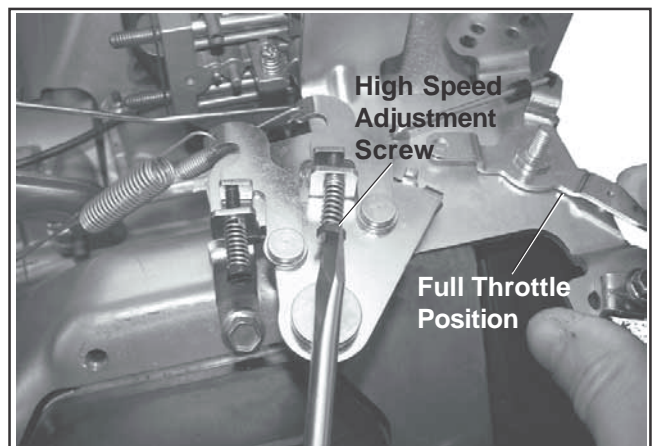

Figure 5-11. Setting High Speed RPM (Air Cleaner Removed for Clarity).
5. Move the throttle lever to the wide-open/full throttle position and hold in this position. Check the RPM using a tachometer. Turn the high speed screw to obtain the intended high speed no-load RPM. **The governed idle speed must be set before making this adjustment.** See Figure 5-11.